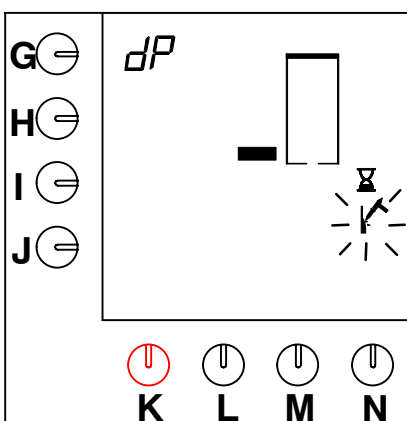

Fig. 25 Pause for interaction of the descaler
- When the water is hot, a sandglass and a flashing hammer symbol appears on the display (fig. 25 ). A 5 minutes waiting time follows to let the renegite do its job.